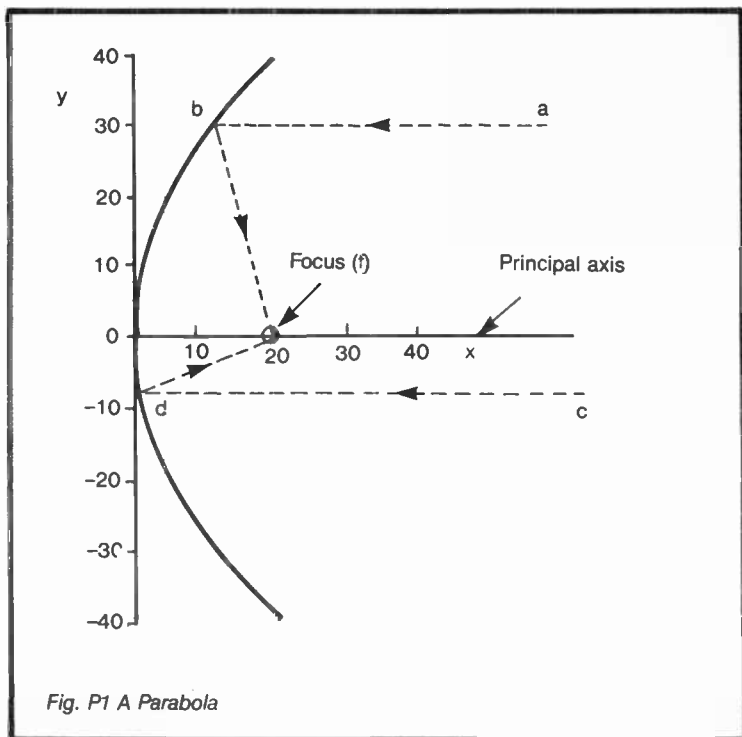

Fig. P1 A Parabola
**PARABOLA** is a particular form of *conic section*, it is the shape revealed when a cone is sliced parallel to its side. Mathematically a parabola is described by the function  $y^2 = 4fx$  where  $f$  is known as the *focal length* and is the distance along the principal axis as shown in Figure P1 in which the focal length is chosen as 20 units.